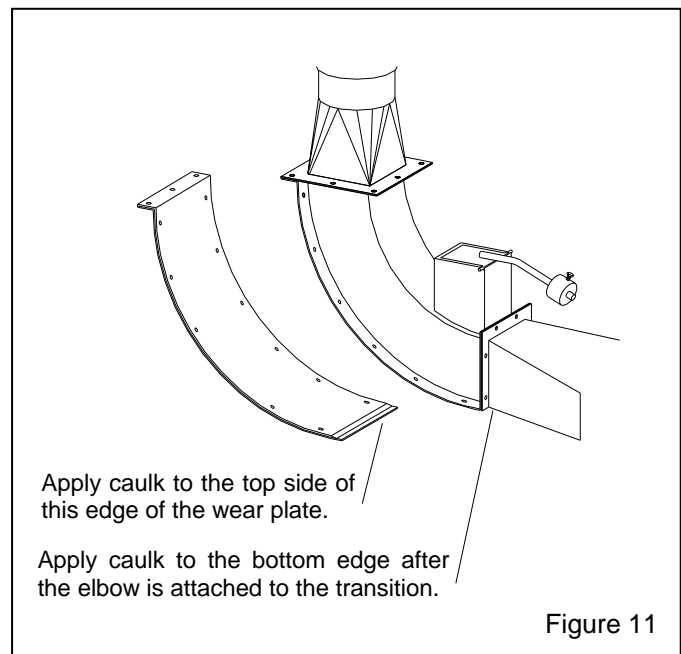

Figure 11
12.3.5 Apply a bead of caulking to the top side of the new wear plate as shown in Figure 11, and install the elbow onto the transition. Apply new gasket material if necessary.